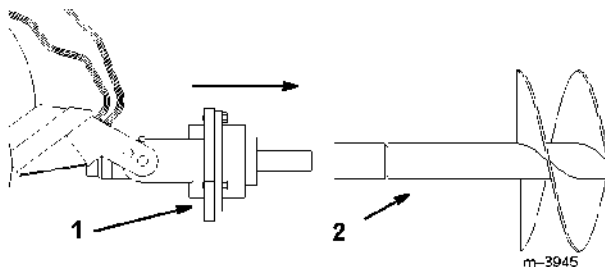

Figure 6
6. Maneuver the drive shaft into the end of the auger shaft or extension (if applicable) (Fig. 6).